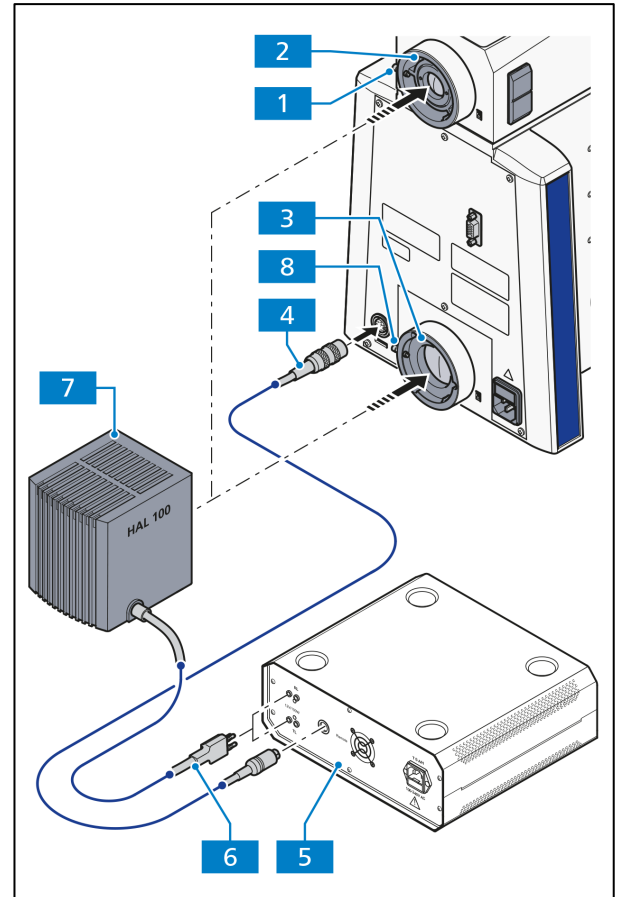
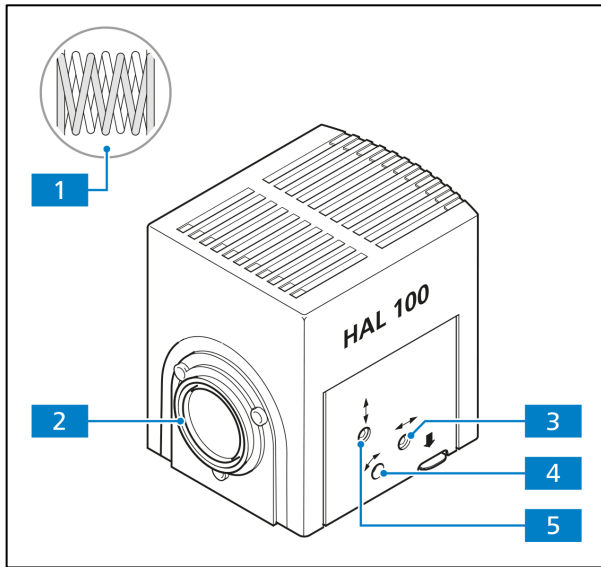

Fig. 3-29 Mounting the HAL 100
Fig. 3-30 Adjusting the HAL 100
- With the Allen wrench (AF 3) loosen the clamping screw of the respective illumination connector (lower for TL (Fig. 3-29/8), upper for RL (Fig. 3-29/1)) on the back of the stand.
- Insert the lamp case (Fig. 3-29/7) with the dovetail ring into the connector (Fig. 3-29/2 or Fig. 3-29/3). Now fixate it by tightening the clamping screw (Fig. 3-29/1 or Fig. 3-29/8) with the Allen wrench.
- Connect the 3-pin lamp plug (Fig. 3-29/6) to the respective socket on the back of the external power supply unit (suited for two lamps) (Fig. 3-29/5): plug the TL illuminator into the lower **TL** socket, plug the RL illuminator into the upper **RL** socket.
- Connect the cable (Fig. 3-29/4) for illumination intensity control (see section 3.3.2).
- After loosening the clamping screw (Fig. 3-29/1 or Fig. 3-29/9), remove the ready-to-operate halogen illuminator (Fig. 3-30/2) from the microscope stand.
- Adjust the adjustment screw (Fig. 3-30/3) using an Allen wrench (AF 3) until both images of the lamp filament appear as sharp as possible on the projection surface.
- Adjust the adjustment screws (Fig. 3-30/4 and 5) so that the lamp filament of one image exactly fills the gaps of the reflected image (Fig. 3-30/1).
- Remove the eyepiece and center the lamp filament and its reflection in the eye pupil image with the adjustment screws (Fig. 3-30/4 and 5).
- Optimize the even illumination of the pupil image with the adjustment screws (Fig. 3-30/3).